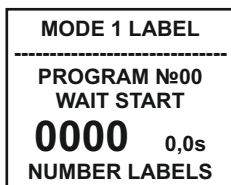
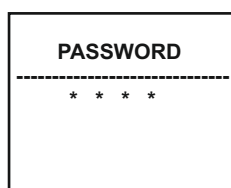
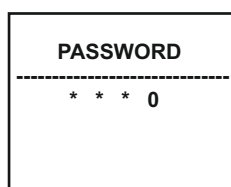
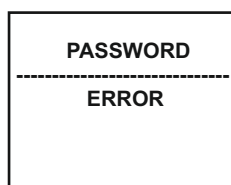

Figure 9.1
Figure 9.2
Figure 9.3
Figure 9.4
Access to the parameter change menu is password protected. From operating menu /fig.9.1/, by pressing and holding the **M** key for longer than 3 seconds displays a password window fig.9.2 (1). It is canceled by pressing the **C** key, and access to the input menu by pressing the **◀** key - fig.9.3. The password is entered by pressing the **▲** key and thus the displayed digit changes cyclically.
If the password is incorrectly entered, an error window is displayed - Figure 9.4. By pressing the **M** key goes to a new input - Figure 9.3 Cancellation of new input shall be done by pressing the **C** key and it goes into working mode - Figure 9.1.
By pressing the  key, the set length is confirmed and proceeds to working mode - figure 9.1.
By pressing the  key, the set offset is confirmed and proceeds to the next parameter - bag length - Figure 9.16. By pressing the  key, the set length is confirmed and proceeds to working mode - Figure 9.1.
When staying in a parameter menu window for more than 60 seconds without activity (pressing any key), the machine enters Figure 9.1 operating mode. Changes made so far are being recorded.